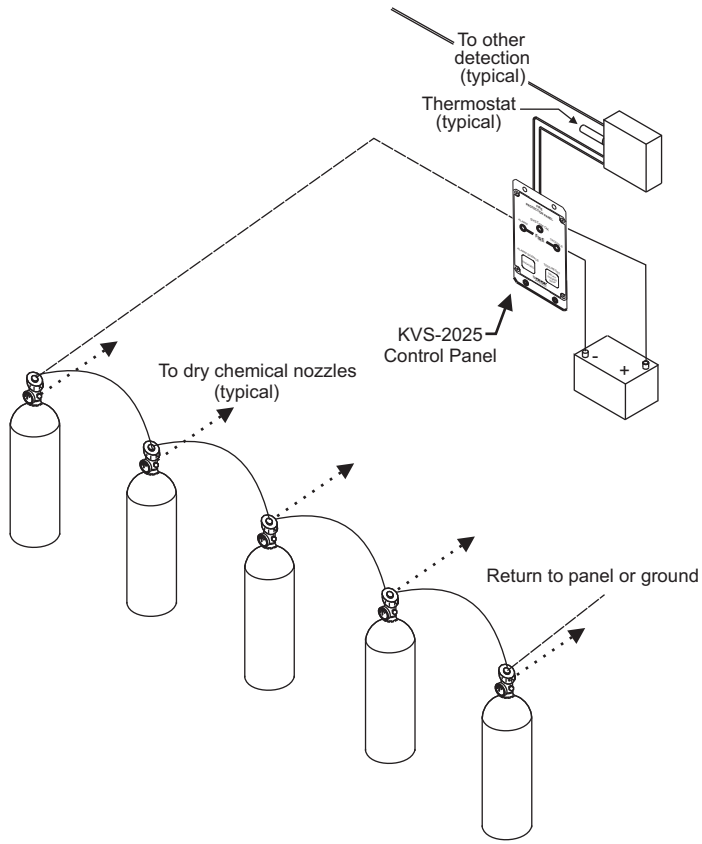

Figure 4-2. Example of Electrical Actuation, Series Firing, Using Protection/Control Panel
- The control head can be used in series for multiple cylinder firing (see Figure 4-2). In a 12 volt system, up to two actuators can be fired in series. In a 24 volt system up to five actuators can be fired in series, provided the overall releasing circuit resistance does not exceed 8.5 ohms.